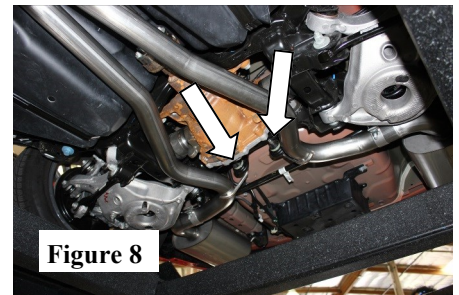

Figure 8
4. Repeat Step 2 for the R/H Intermediate Pipe Assembly installation to the right-side. (See Fig. 8)